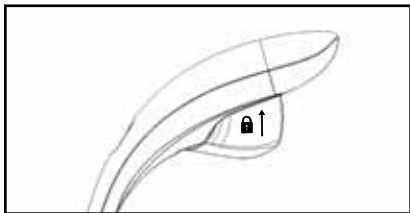

**Figure 3. Strain Relief locked into the Access Port's port housing**
4. The Strain Relief is then locked into the Access Port's port housing (Figure 3).